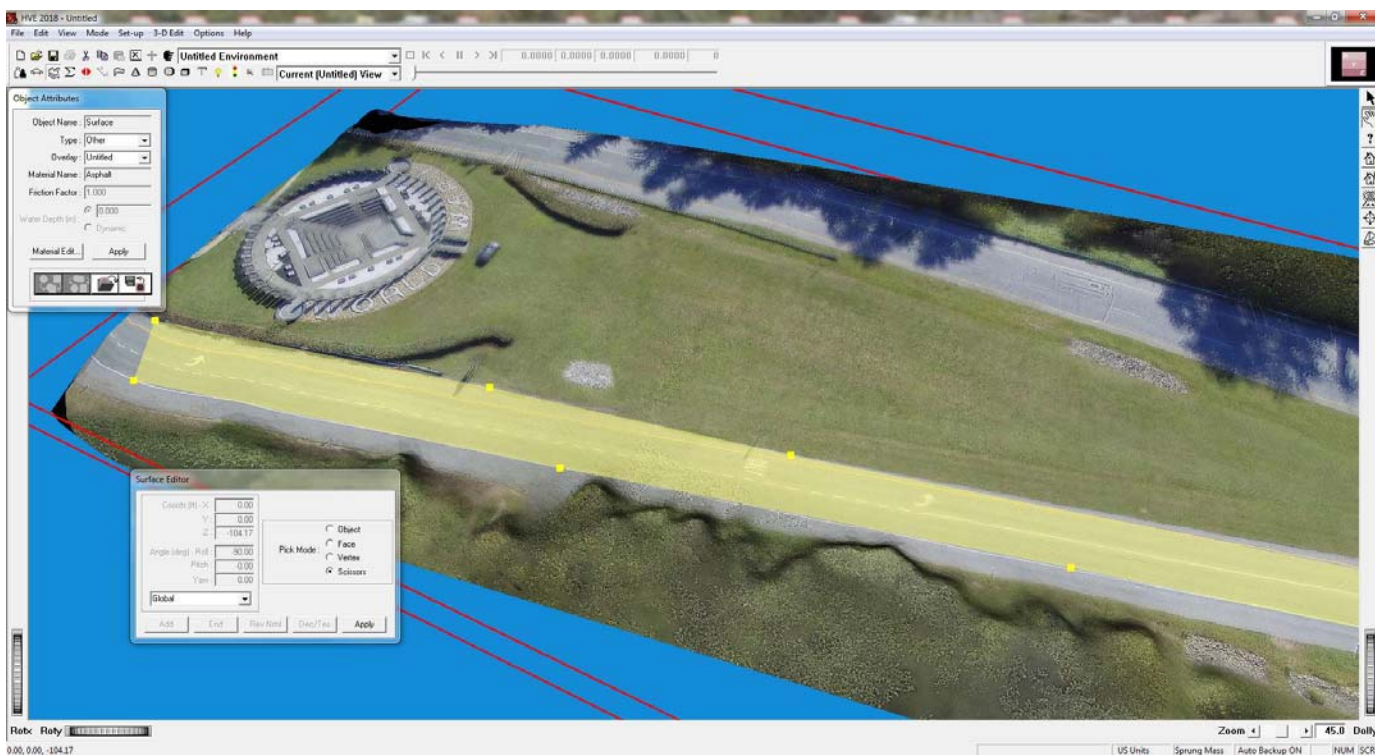

Figure 3 - Using Scissors to cut out the desired surface (the part of the surface we want to drive on). Note the markers that define the highlighted region.
- Click on the surface in several locations to choose the desired region to cut out of the original surface. See close-up in Figure 3.